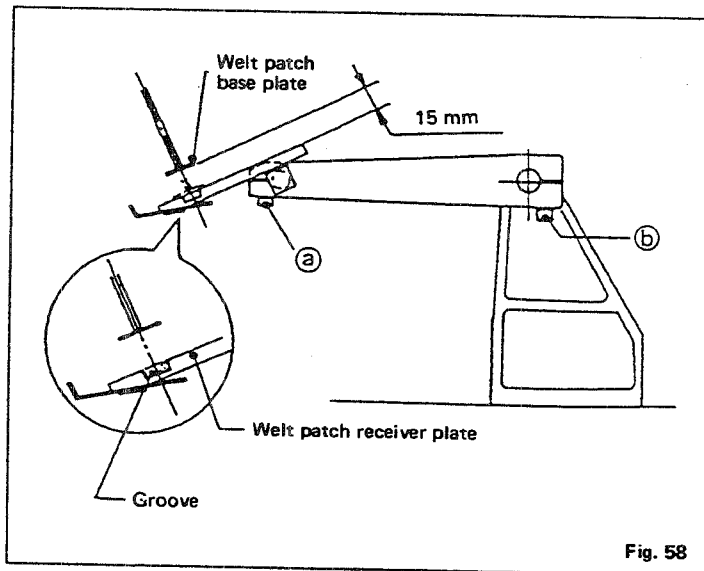

Fig. 58
2. Loosen bolts (a) and (b) to adjust the position of the welt patch receiver plate so that the relevant parts are positioned as illustrated in Fig. 58.